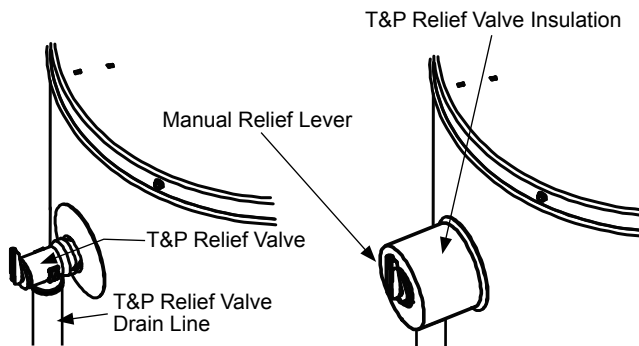

FIGURE 24.
1. Locate the temperature and pressure relief valve on the water heater (also known as a T&P relief valve). See Figure 24.
3. Spread the slit open and fit the insulation over the T&P relief valve. See Figure 24. Apply gentle pressure to the insulation to ensure that it is fully seated on the T&P Relief Valve. Once
seated, secure the insulation with duct tape, electrical tape, or equivalent. **IMPORTANT:** The insulation and tape must not block the discharge opening or hinder access to the manual relief lever (Figure 24). Ensure a discharge pipe is installed into the T&P valve discharge opening per the instructions in this manual.